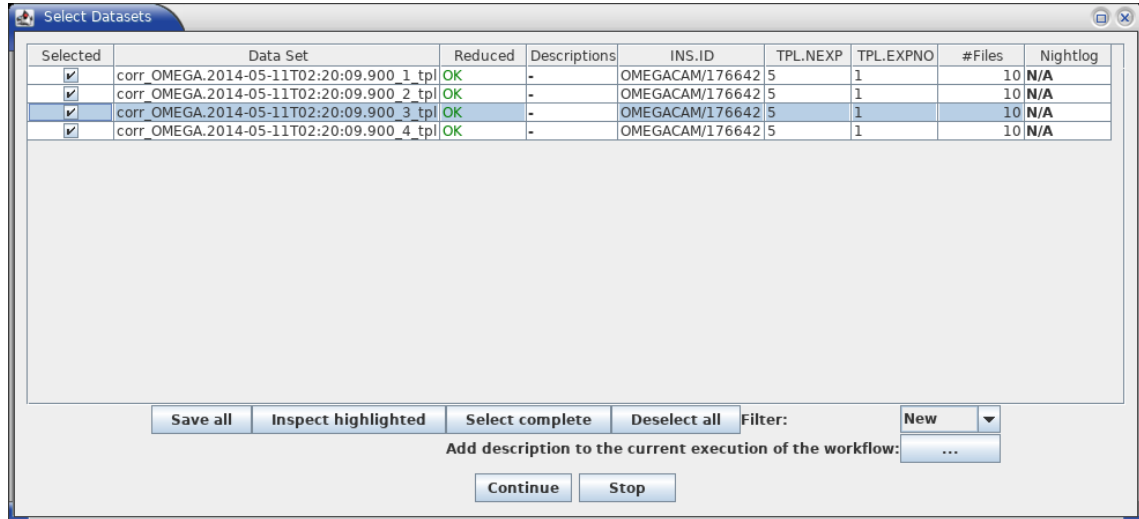

Figure 6.3: The Select Datasets pop-up window.
7. The `Data Set Chooser` actor will be highlighted next and will display a “Select Datasets” window (see Figure 6.3) that lists the datasets along with the values of a selection of useful header keywords². The first column consists of a set of tick boxes which allow the user to select the datasets to be processed. By default all complete datasets which have not yet been reduced will be selected. A full description of the options offered by the `Data Set Chooser` will be presented in Section 8.2.3.
The `DataSetChooser` displays the DataSets available in the “Select Data Sets” window, activating vertical and horizontal scroll bars if necessary (Fig. 6.3).